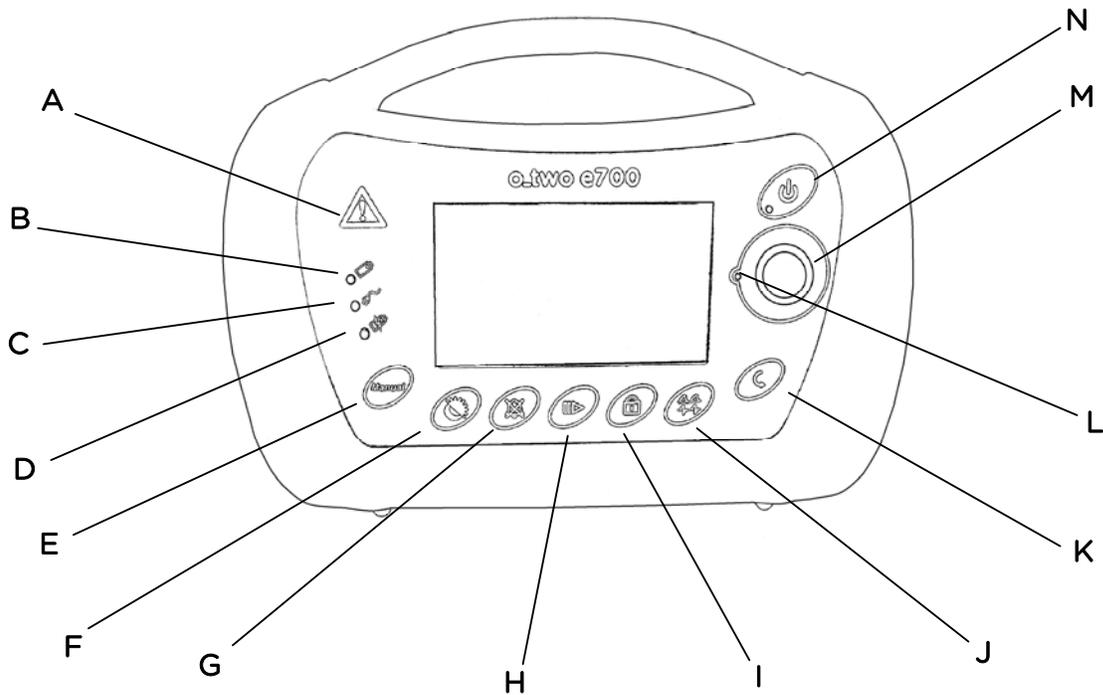

Figure 1
- 1- Press Lock button (I) in Figure 1. The Lock symbol will be displayed on the screen.
- 2- To cancel the Lock function, press the Lock button (I) again.
Alarm Silence button (G) in Figure 1 will silence audible alarms for 120 seconds. It can also be selected when there is no alarm in order to silence potential alarms. This function is activated or deactivated by pressing the Alarm Silence button once.
Pressing Waveform selection button (J) in figure 1 will switch between the pressure and volume ventilation waveforms displayed on the screen.
The Cancel button (K) in Figure 1 allows the operator to return to the previous settings if the last unconfirmed changes in settings are not required.
During activation of the Pause/ Resume button (H) in Figure 1, the ventilator will stop ventilating with all buttons kept active (if they are not locked) except Manual/ Hold button.
- a. During Pause, there will be an audible alarm associated with the flashing yellow Warning indicator (A) in Figure 1 every 15 seconds. Users can press Alarm Silence button to disable the audible alarm for 2 minutes but the yellow Warning indicator will continue flashing every 15 seconds.
4. To cancel Pause function, press Pause/ Resume button (H) again. The "Resume" symbol will flash on the screen with the confirmation symbol  and the Confirmation indicator (L) to guide users to resume ventilation by pressing the Control Selection Knob (M).
During exhalation phase, if Manual/ Hold button (E) in Figure 1 is pressed, a mandatory breath will be initiated and either the flow rate or set pressure control parameter will be delivered as long as the Manual/ Hold button is pressed or until I-time setting is achieved.